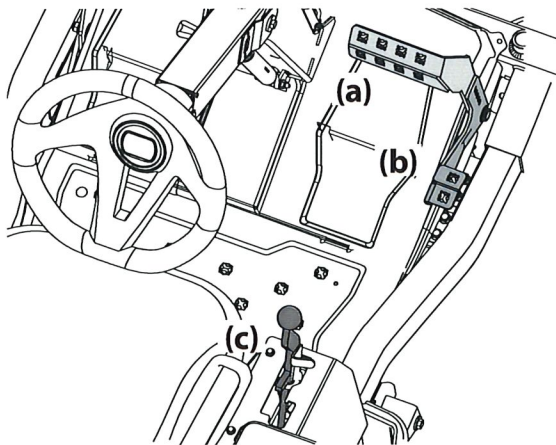

Figure 18
2. To travel FORWARD, slowly press the forward drive pedal (a) forward until the desired speed is achieved. See Figure 18.
- To stop or slow down the tractor, take your foot off of the forward (a) or reverse drive (b) pedal. To lock the parking brake, place drive control pedals in neutral and pull the park brake lever (c) back. See Figure 18 on page 17.
- To travel in reverse, check that the area behind is clear then slowly push down on the reverse drive pedal (b) with the ball of your foot (NOT your heel) until the desired speed is achieved. See Figure 18 on page 17.